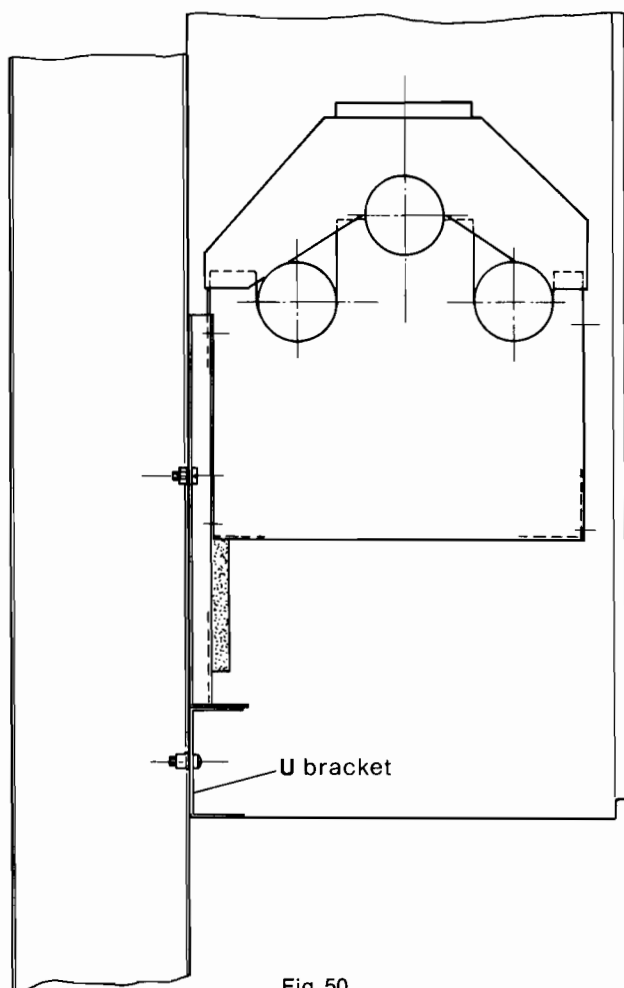

Fig. 50
- l) Remove the single screw from the "U" bracket below the combustion chamber (fig. 50) and remove bracket.
- d) Remove the single screw from the "U" bracket below the combustion chamber (fig. 50) and remove bracket.